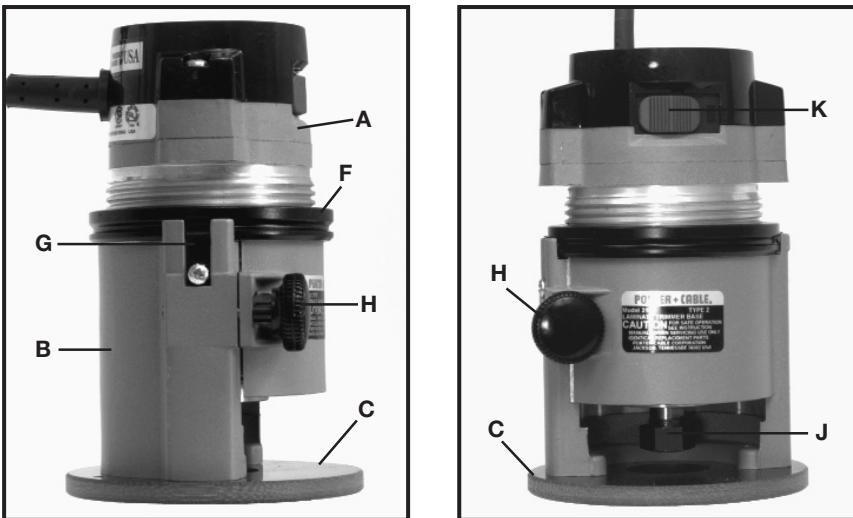

Fig. 1
- a. Loosen clamping knob (H) Fig. 1.
- b. Grasp power unit (A) Fig. 1, and pull straight up and out of the base unit (B) Fig. 1. This will also release the depth adjusting ring (F) Fig. 1, from ring springs (G) Fig. 1.
5. Place one wrench on flats of shaft directly above collet nut (J) Fig. 1. Let far end of wrench rest on bench to your RIGHT.
6. Place other wrench on collet nut (J) Fig. 1, and turn clockwise to tighten. TIGHTEN SECURELY.
2. Place one wrench on flats of shaft directly above collet nut (J) Fig. 1. Let far end of wrench rest on bench to your LEFT.